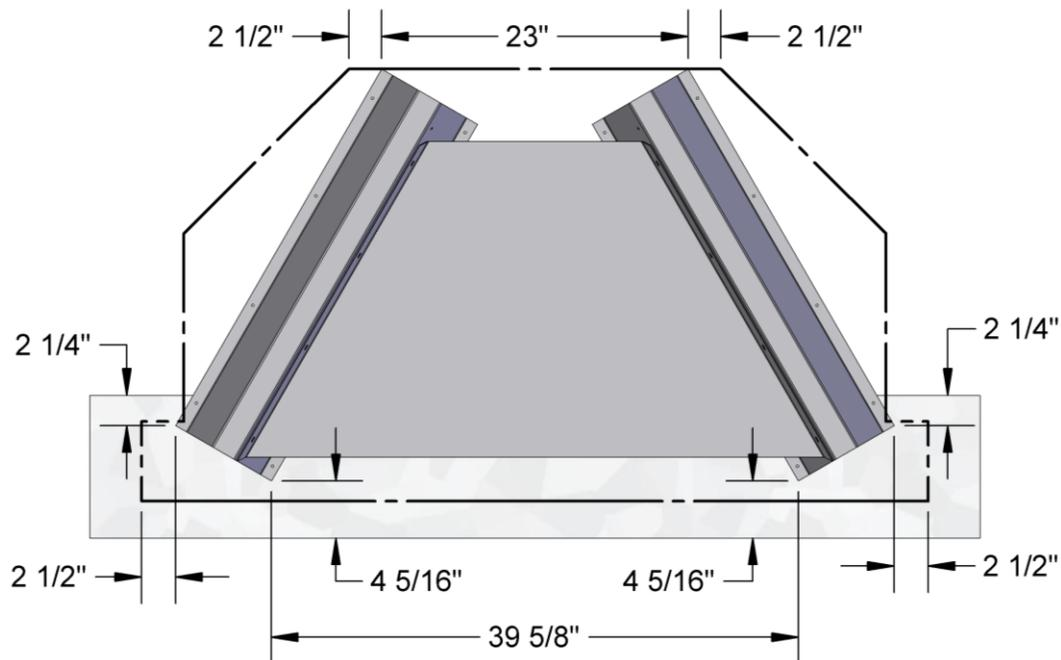

FIGURE 8 POSITIONING THE FIREPLACE BOTTOM STANDOFF AND SPARK GUARD
- Position the bottom standoff on the floor along with the spark guard. Use Figure 8 to help in properly locating the bottom standoff and the spark guard based on the silhouette of the entire fireplace which includes the back and angled sides' standoffs.
- Install the fireplace on the fireplace bottom standoff making sure that the base of the fireplace is aligned with the bottom standoff as shown in Figure 8.
The spark guard position in Figure 8 will ensure that it is 2½" under the fireplace base and 2½" under the hearth extension, centered on the fireplace opening. It is dimensioned so that it will also cover the entire floor area under the metal front step of the fireplace. This guard prevents sparks from lodging in this area and starting a fire. See "Hearth Extension Requirements" on page 24.